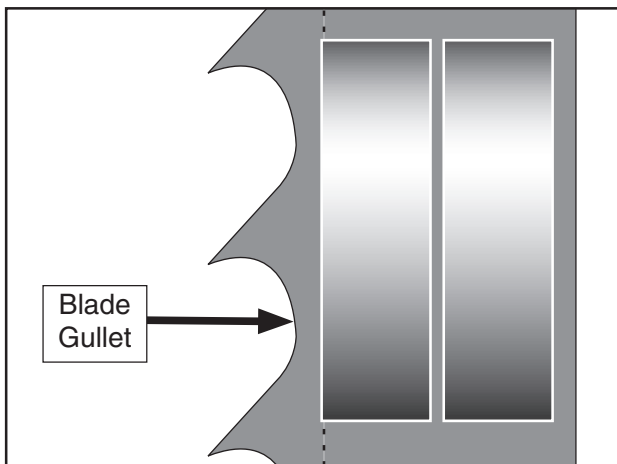

Figure 46. Lateral adjustment of blade guides.
4. Loosen the cap screw on the lateral adjustment rod and adjust the blade guides until the edges of the bearings are $\frac{1}{16}$ " behind the blade gullets as illustrated in **Figure 46**.